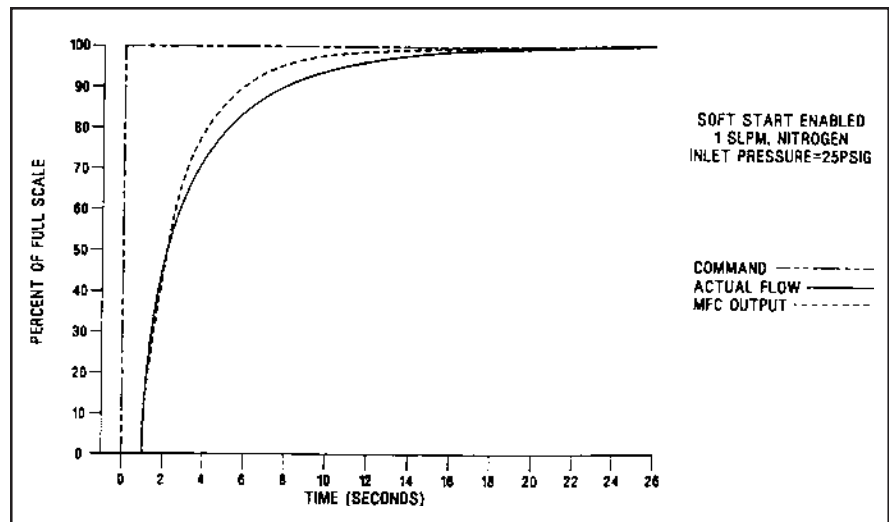

Figure 1-2 0 — 100% Command Step, Soft Start Enabled
-SOFT START provides a flow ramping function which slows down the introduction of the process gas for those processes which cannot tolerate rapid flow transition. Refer to Section 2-6 and Figure 1-2.